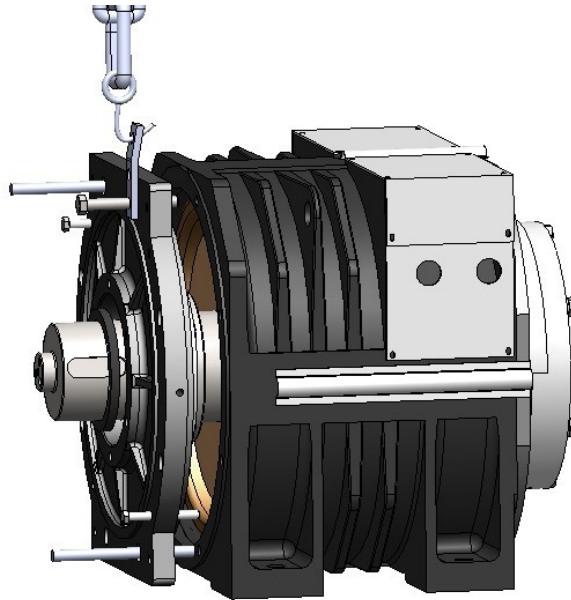

Figure 82 Hoist Front Cover
8. Hoist out the Front Cover with hoisting equipment; remove the threaded rod. See Figure 82.